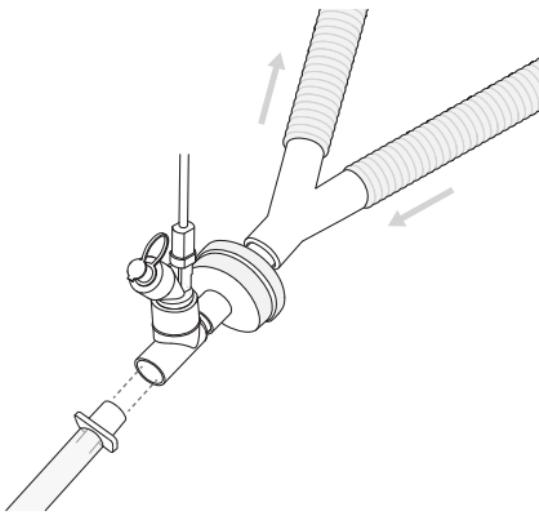

Figure 9. The Aerogen Solo placed between the HME and endotracheal tube.
4. Only a HME approved for use with a nebulizer should be used in this configuration (Figure 9). Follow the HME manufacturer instructions regarding use with a nebulizer. Ensure the combination of nebulizer, T-piece and HME volumes is suitable for the tidal volume being delivered. See Table 3 for T-piece volumes.